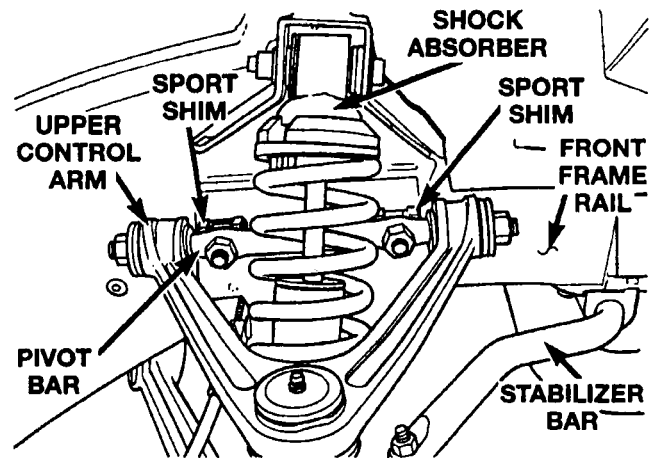

Figure 12 – Right Side Shown
- j. Verify that the front suspension upper control arm sport shims have not been removed (Figure 12). Correct camber angles can not be set if the sport shims have been removed.